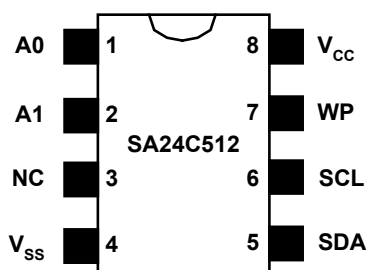

Figure 2. SO, Package (MW), Dual-in-Line Package (N), Top View
| Figure 2. SO, Package (MW), Dual-in-Line Package (N), Top View | 5 |